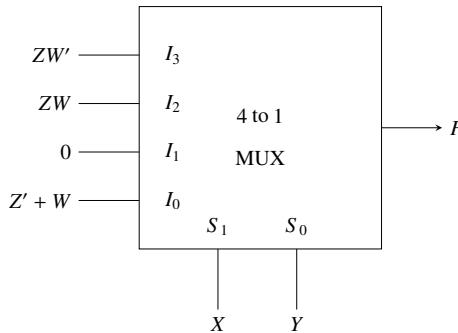

Fig. 4.15
26. A  $4 \times 1$  multiplexer with two selector lines is used to realize a Boolean function  $F$  having four Boolean variables  $X, Y, Z$ , and  $W$  as shown below in Fig. 4.15.  $S_0$  and  $S_1$  denote the least significant bit (LSB) and most significant bit (MSB) of the selector lines of the multiplexer, respectively.  $I_0, I_1, I_2, I_3$  are the input lines of the multiplexer. The canonical sum of product representation of  $F$  is (GATE IN 2021)